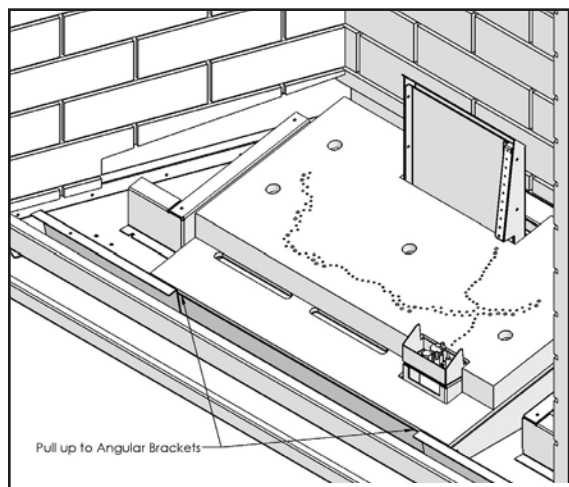

Figure 17: Log Burner in Place.
2. Pull the burner forward up to the angular brackets near the front of the firebox (see Figure 17).